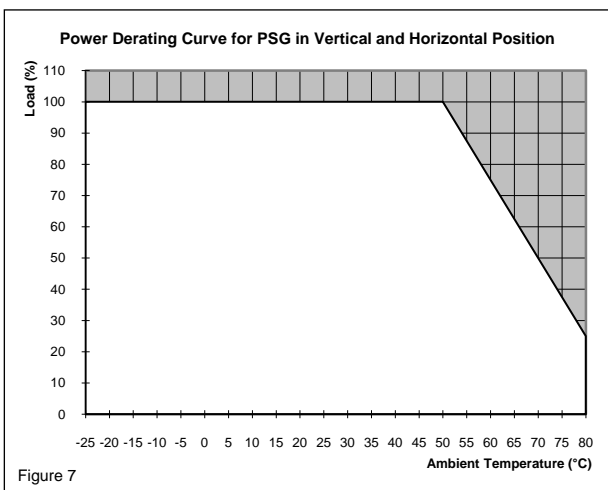

Figure 7
5.4. Thermal behavior (Fig. 7).
| Operating temperature (surrounding air temperature) | -25°C to +80°C (Refer to Fig. 7) |